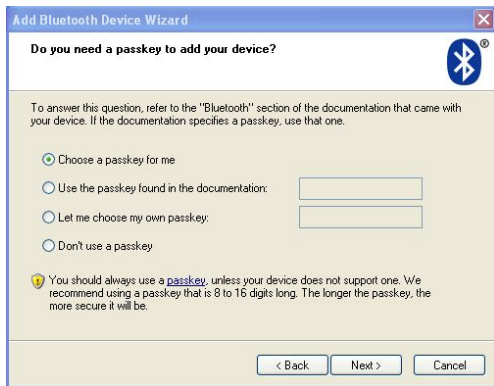

Figure 11
- 6) Select the bluetooth symbol, then the "Next" button is available to choose, click it to pop up a dialogue box as Figure 11: